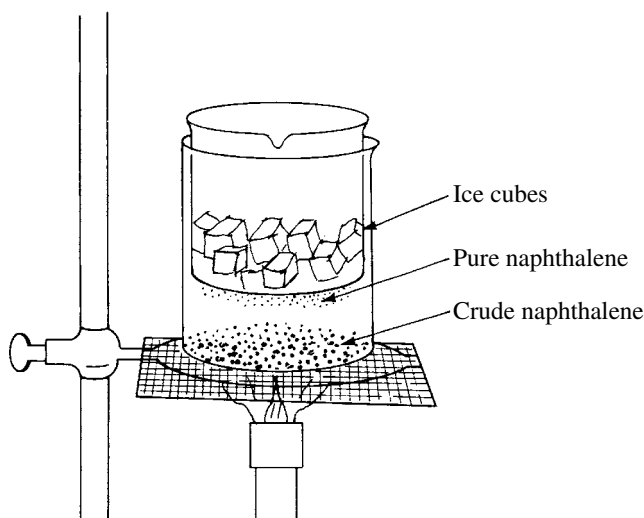

Figure 13.6
2. Into the 100-mL beaker place a smaller 50-mL beaker. Fill the smaller one halfway with ice cubes or ice chips. Place the assembled beakers on a wire gauze supported by a ring clamp (Figure 13.6).